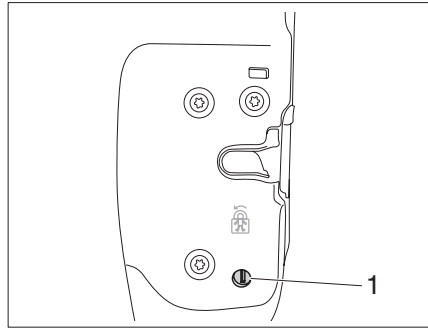

Fig. 13 Activating/deactivating the child lock
The rotary knob for the child lock (Fig. 13,1) is located in the closing edge of the sliding door.
- ▶ Insert the car key into the slot of the rotary knob (Fig. 13,1).